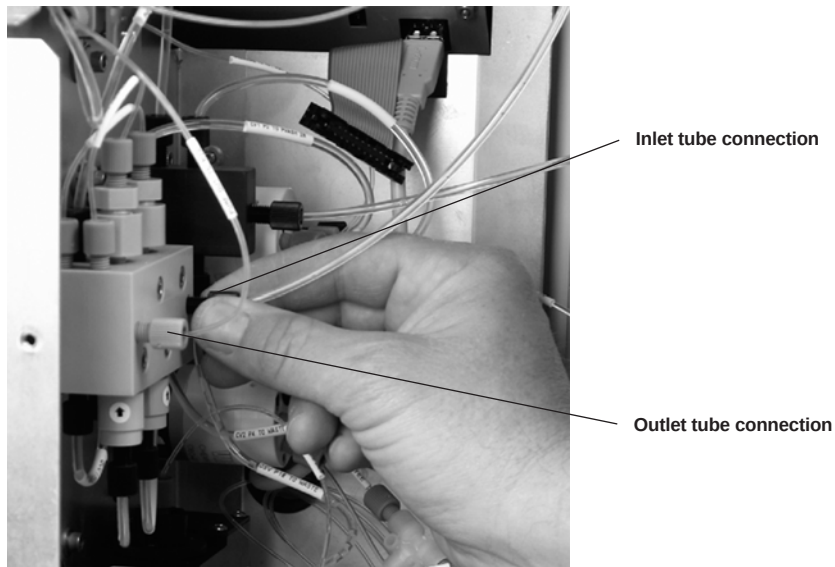

Fig. 13.6. Removing the inlet tube from the pump assembly.
3. Use your fingers or the tubing wrench to remove the 1/8" inlet tube from the front of the pump body (Figure 13.6).